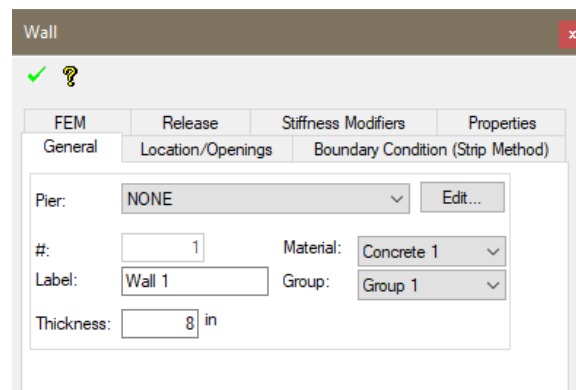

Figure 2-31
- Click on the *Item's Properties* icon of the *Properties* panel. This will open up the *Wall* properties window as shown in **FIGURE 2-31**.